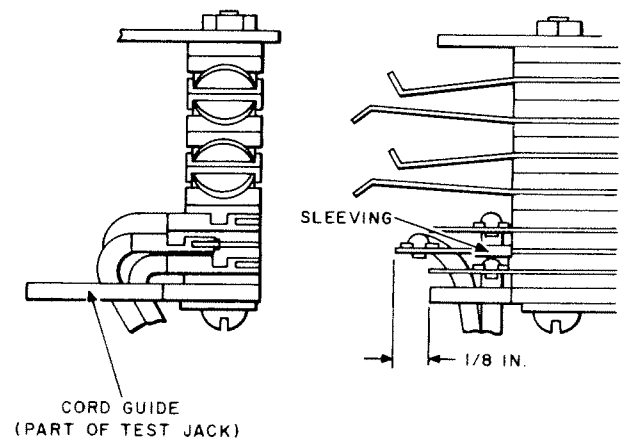

Fig. 17 — Method of Dressing and Connecting Wiper Cords at Test Jack Assembly
(1) To replace this assembly, tag and disconnect the leads connected to the test jack terminals at the rear of the test jack. Unsolder and tag the wiper cords from the front of the jack assembly.
(2) Loosen the test jack assembly mounting screw and nut, using the 3-inch C screwdriver and the 417A or 418A wrench. Mount the new assembly securely in position. The screw nearest the front of the switch which fastens the test jack assembly to the lower coverplate is only required on switches with a P-251147 commutator.
(3) Connect leads to the rear of the assembly. Dress and connect the wiper cords as shown in Fig. 17. If the wiper cords are M1G cords (M1G cords do not have cord tips), replace them with M1R cords as described in Section 030-705-804.